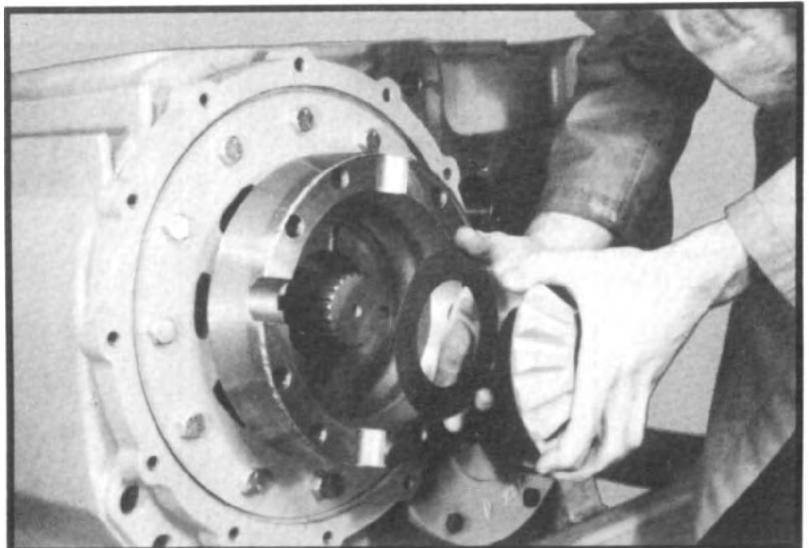

Fig. 49
2.13 Remove differential side gear and thrust washer from inner shaft. (See fig. 49.)